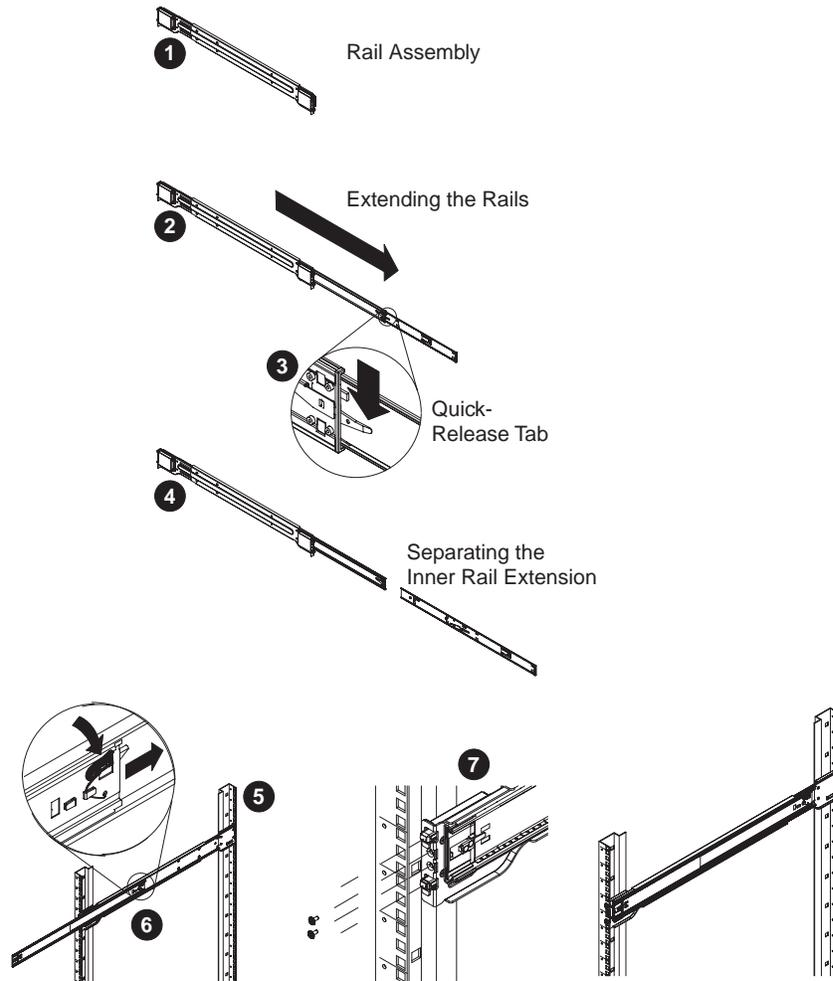

Figure 3-1 Separating and Installing the Rack Rails
1. Locate the rail assembly in the chassis packaging as shown in Figure 3-1.
1. Using the screws provided, secure the back end of the outer rail to the rack (see Figure 3-1).